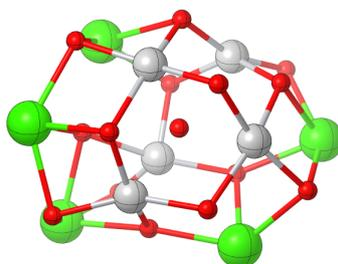

Figure 3.6.1: The global minimum of  $(\text{CaTiO}_3)_5$ .
Step 3: Now we examine the structure by opening the file `catio3.xyz`. See Figure 3.6.1. Note that it is very different from a bulk, perovskite crystal structure.